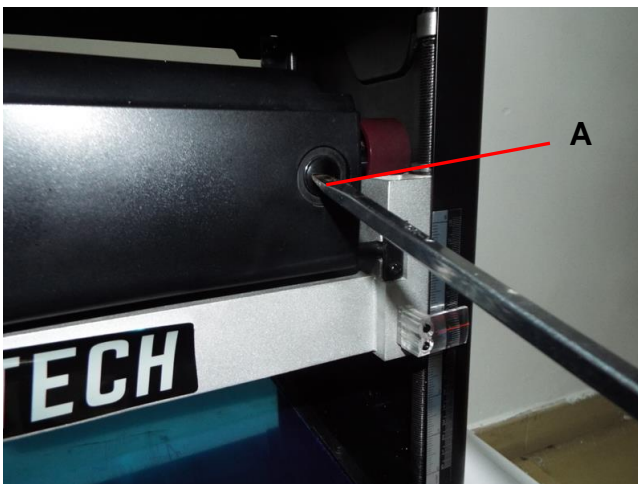

FIG 12
1. Remove the brush holders, one of which is shown at (A). The other is located in the same position on the rear of the motor assembly. The Brush Holder can be removed using a flat blade screwdriver. SEE FIG. 12.